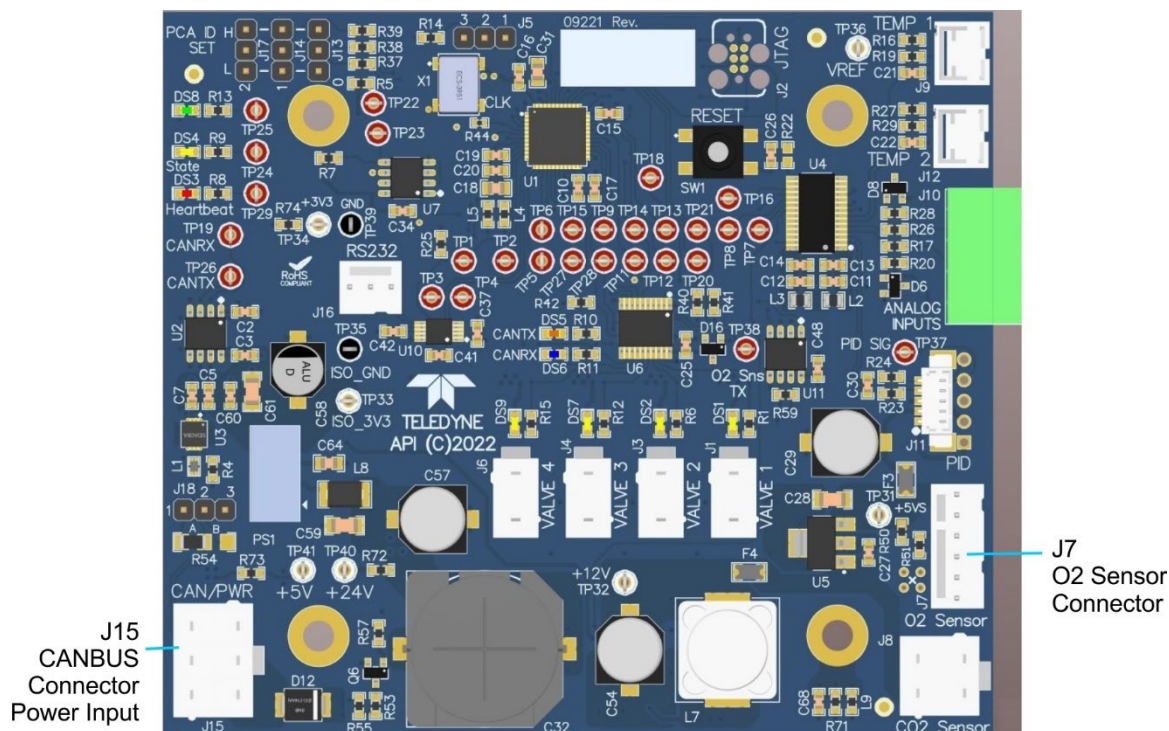
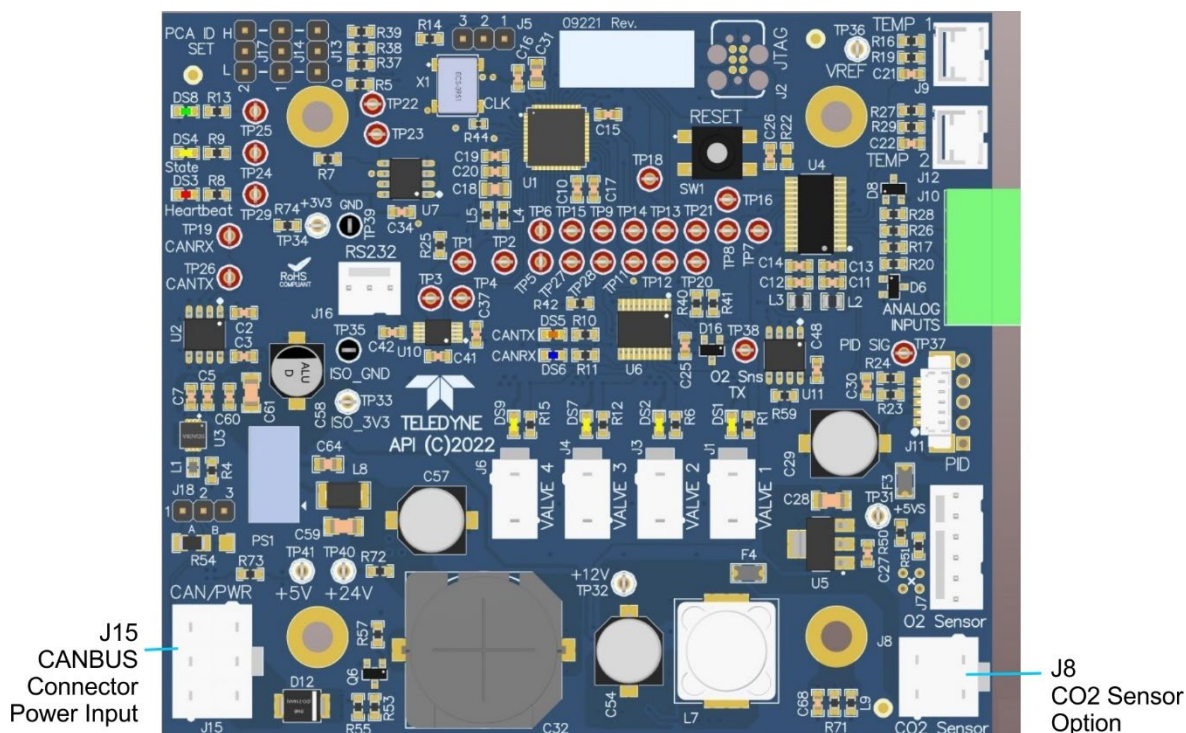
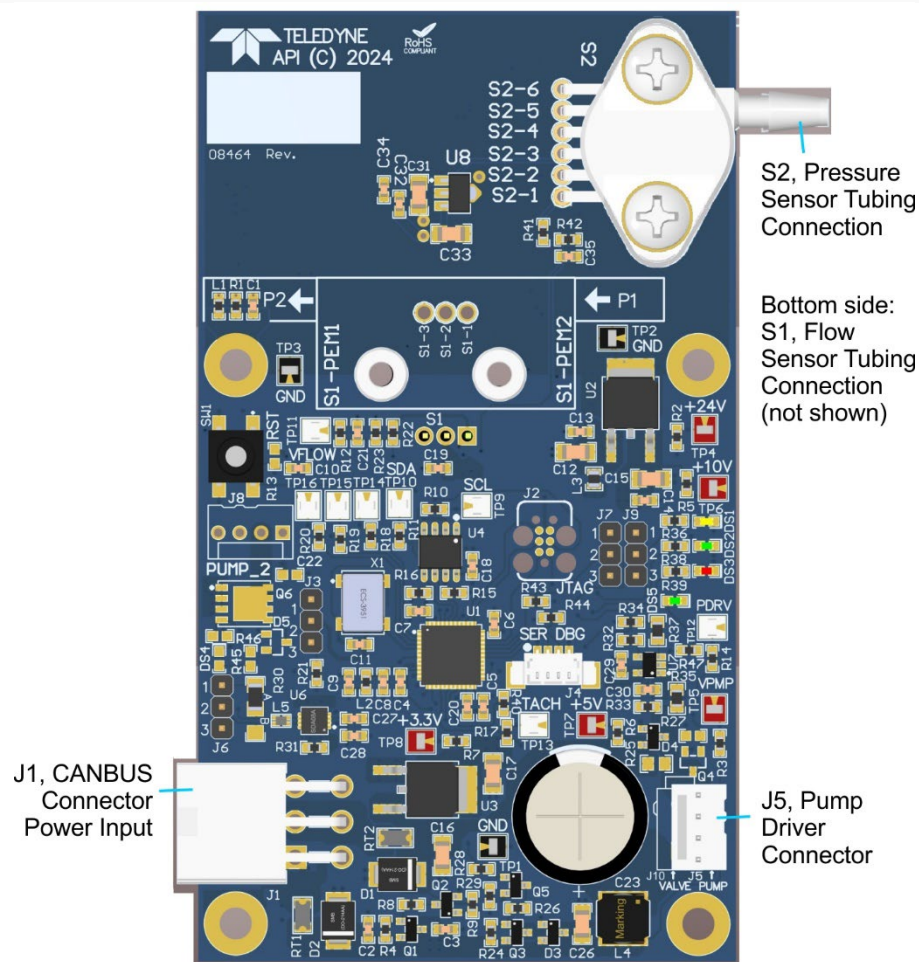

Figure 5-8. O₂ Sensor Connectors
Figure 5-9. CO₂ Sensor Option Connectors
Figure 5-10. Pump Control Board Connections
4. Unplug electrical connection(s) to the module (see Figure 5-8 for O2 sensor board, Figure 5-9 for CO2 sensor option board, and Figure 5-10 for pump controller connections).